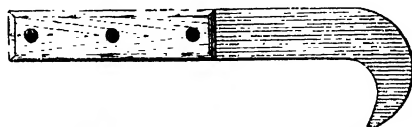

Fig. 351.—Linoleum-cutter's Knife.
**Laying Linoleum.**—Linoleums and floorcloths, also known as oilcloths, are not often planned to fit. When they are planned, the method adopted is that shown in a later paragraph. The roll is generally taken to the house, and the plan chalked on the material. The borders, if any are required, are first laid, each corner being cut to a clean mitre with a specially shaped lino knife (Fig. 351); this should be kept well sharpened on a piece of emery cloth glued on a block of wood. When the borders are cut to fit, cement them down with linoleum cement. It is not necessary to cement the whole width of the border, 3 in. from each edge being sufficient; then press well down into position. The body stuff can then be placed in position and marked slightly over